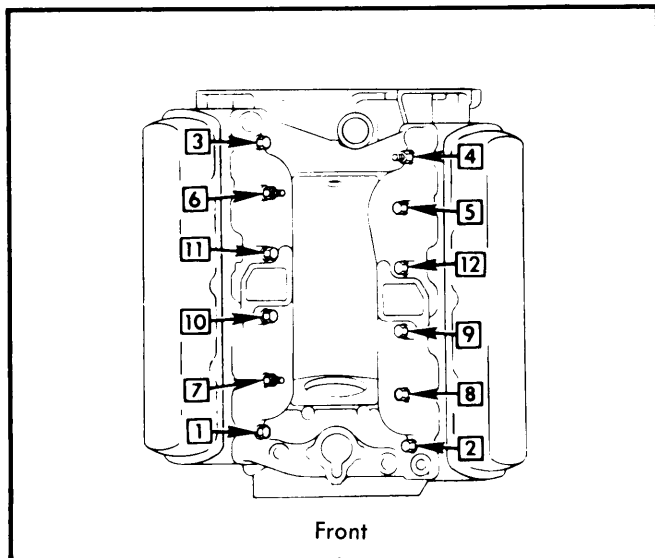

Fig. 1 Intake Manifold Tightening Sequence
2) Dip manifold bolts in oil and tighten in 2 steps. See Fig. 1. Install drain tube and apply chassis lube to seal area on injection pump adapter, taper edge and seal area of manifold. Use seal installing tool (J-28425) to properly position seal on adapter, then tighten bolts to specifications.